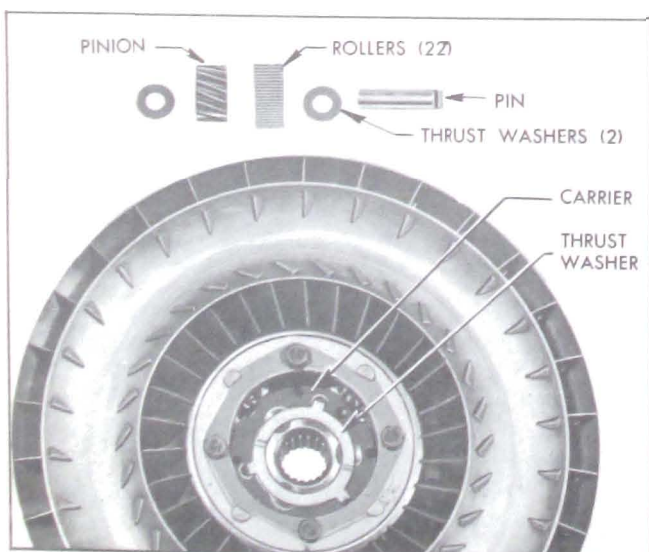

Figure 5-48—Second Turbine Parts
5. Install pinion pin lock plate so that it enters the notches of all pins, then install the four turbine-to-carrier bolts with lockwashers. See Figure 5-48.
8. Place tanged thrust washer in second turbine carrier and install sun gear in second turbine assembly. See Figure 5-48.